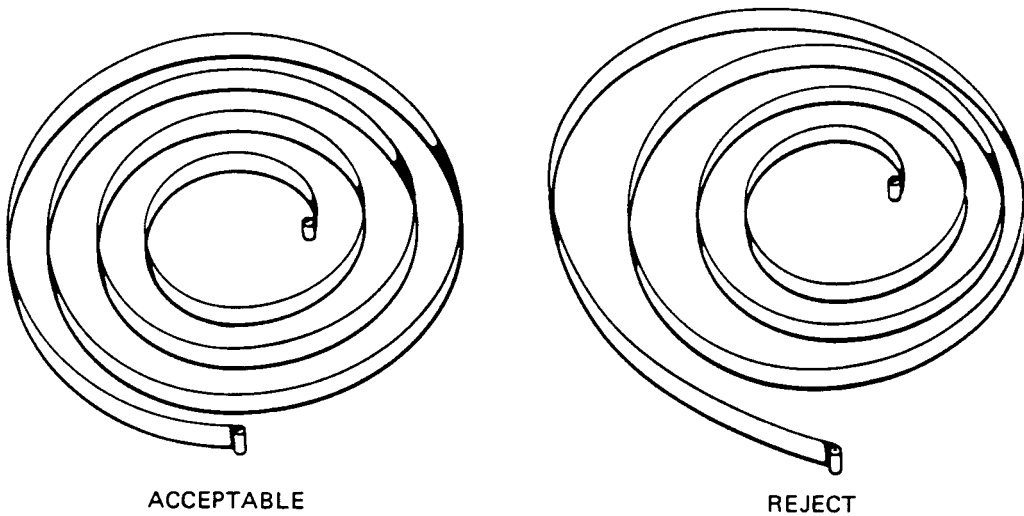

Figure 74-16. Acceptable and Deformed Coupling Springs
8. With spring released and free, it should form a smooth spiral curve with no sharp bends or flat spots. (Refer to figure 74-16.) If spring is deformed, replace it.